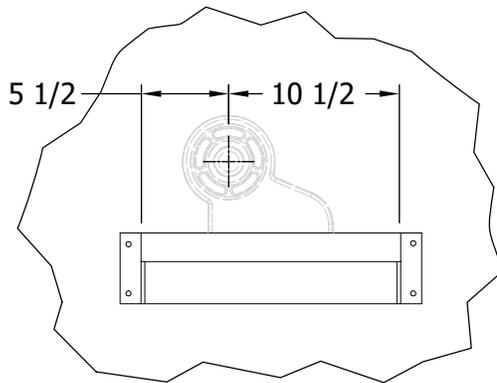

Figure 27-2
- 1) **Figure 27-2.** Drill four 3/8" holes using the mounting bracket as a template for the hole locations.